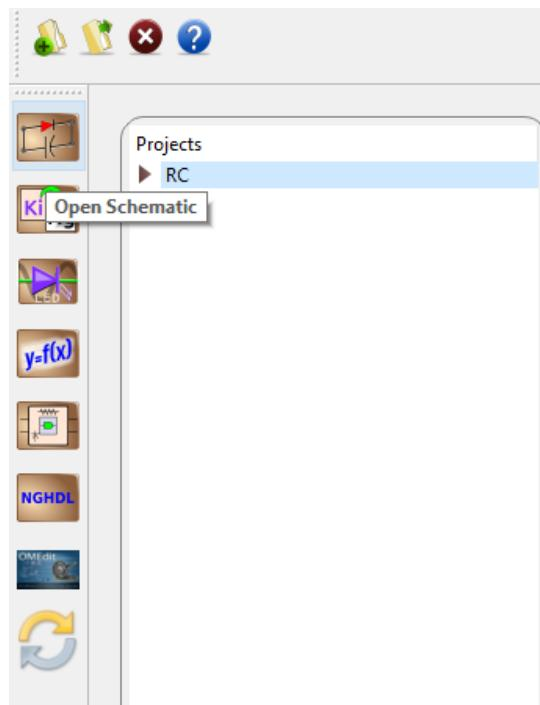

Figure 11.2: Open Schematic Editor
- Creating the Schematic: To create the schematic, click the very first icon of the left toolbar as shown in the Fig. 11.2. This will open KiCad Eeschema.
- **Creating Schematic:** To create the schematic, click the very first icon of the left toolbar as shown in the Fig. 11.2. This will open KiCad Eeschema.
- Creating Schematic: To create the schematic, click the very first icon of the left toolbar as shown in the Fig. 11.2. This will open KiCad Eeschema.